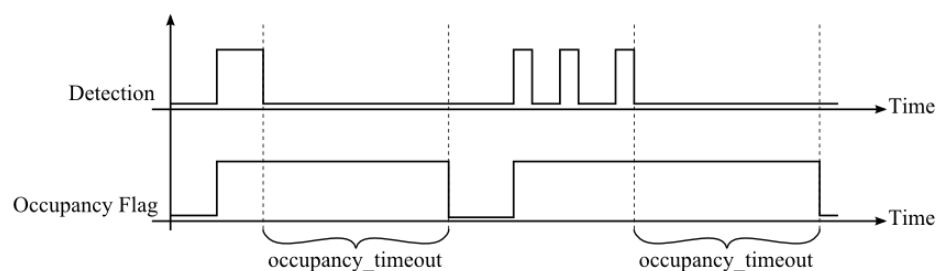

Figure 9: Occupancy Sensor Operation
With this register the function of occupancy sensor is enabled and controlled. occupancy_timeout: defines a timeout in seconds when the state of the occupancy flag of the short pressed register at address 1 will be cleared again after motion was detected. Anyway the occupancy flag of the present state register at address 0 will show the actual state of the occupancy sensor without occupancy timeout. Please see Figure 9 for further information on operation. EN: occupancy sensor enabled, only if enabled the occupancy flag of the present state and short pressed register at address 0 and 1, Table 8 on Page 26 will be set. ❶ Applies only to LSTAT-801-Gx-Lx and LSTAT-802-Gx-Lx.
As depicted in Figure 9 the occupancy flag is set when motion is detected and will be cleared again after the occupancy_timeout has exceeded as defined at the occupancy_sensor_configuration register.